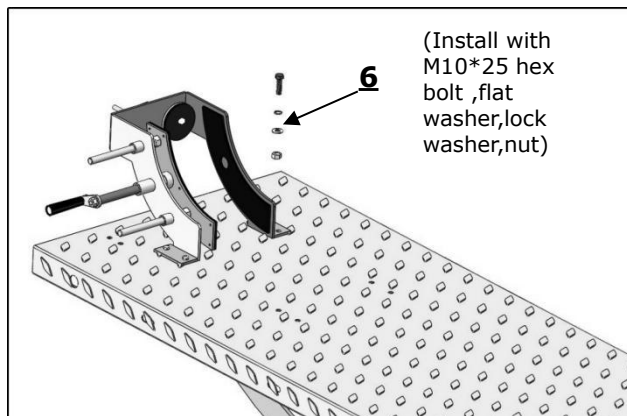

Fig.10
2.Lifting the motorcycle lift to a suitable height, install the wheel vise as to below picture. (See Fig 10)